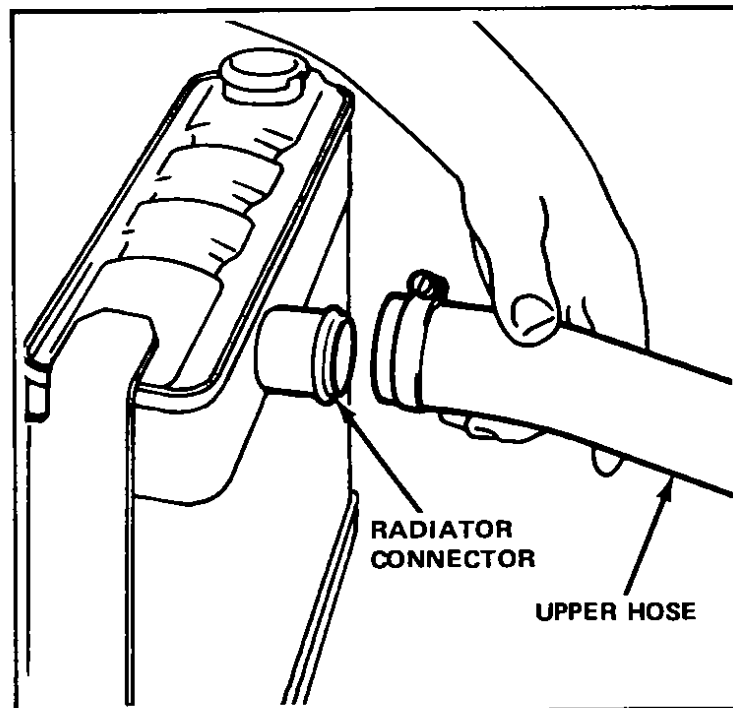

Fig 12 Removing radiator hose
- 3 Twist the hose back and forth to loosen the hose from the connector. Slide the hose off connector when free, Fig 12. If the hose is dried and cracked and remnants of it remain on the connector, clean connector thoroughly with a scraper or putty knife. *Do not pry under the hose as the connector is soft and may be damaged*